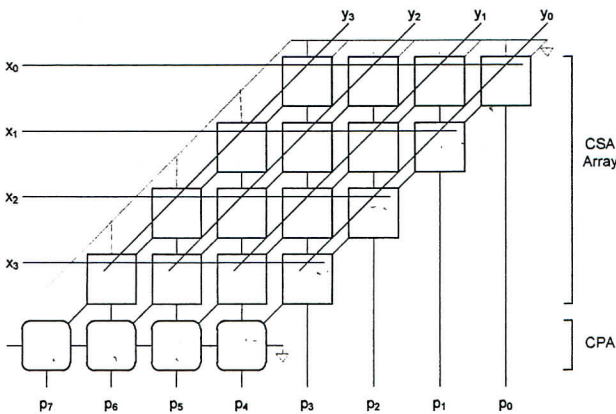

Fig. 11.1
- (a) Find the critical path and delay in Fig. 11.1. (2.5%)